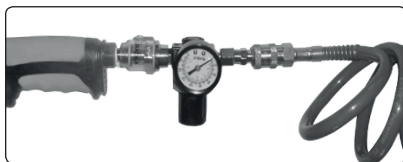

Fig. 6, connection diagram
- To disconnect them, push the female quick coupler connector (fig.6).